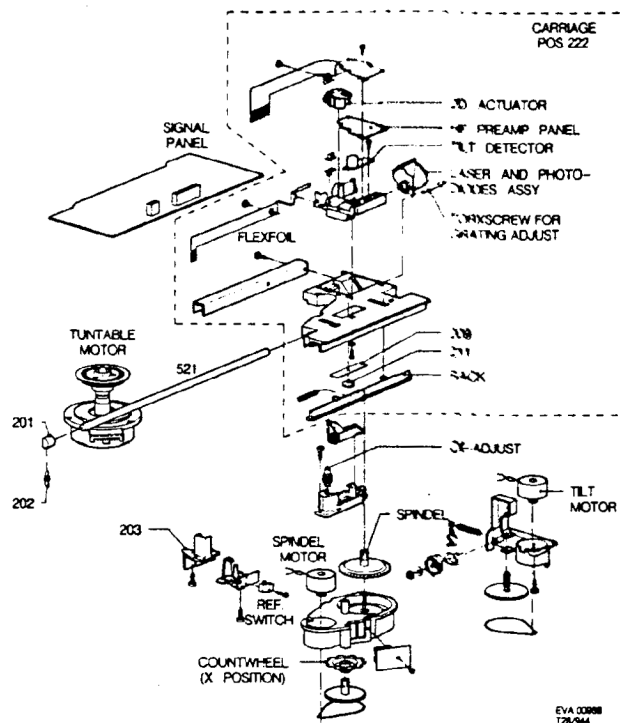
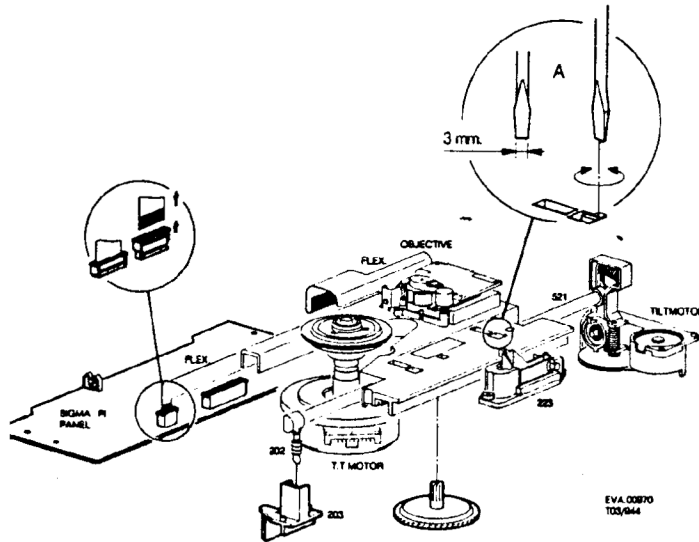

Fig. 2
Fig. 3
The most important parts are: (see fig. 2)
See fig. 2 and fig. 3.
2. Mount pos. 201, 209, 211 and 521 of the old carriage in the new one. Do not yet mount the spring, pos. 202.
3. Place the carriage in the CDM and slide pos. 223 over the carriage.
4. Insert the carriage bracket pos. 521 into the tilt motor suspension.
5. Slide the rack pos. 213 over the spindle pos. 214 by turning a 3 mm screwdriver in opening A (see fig. 3).